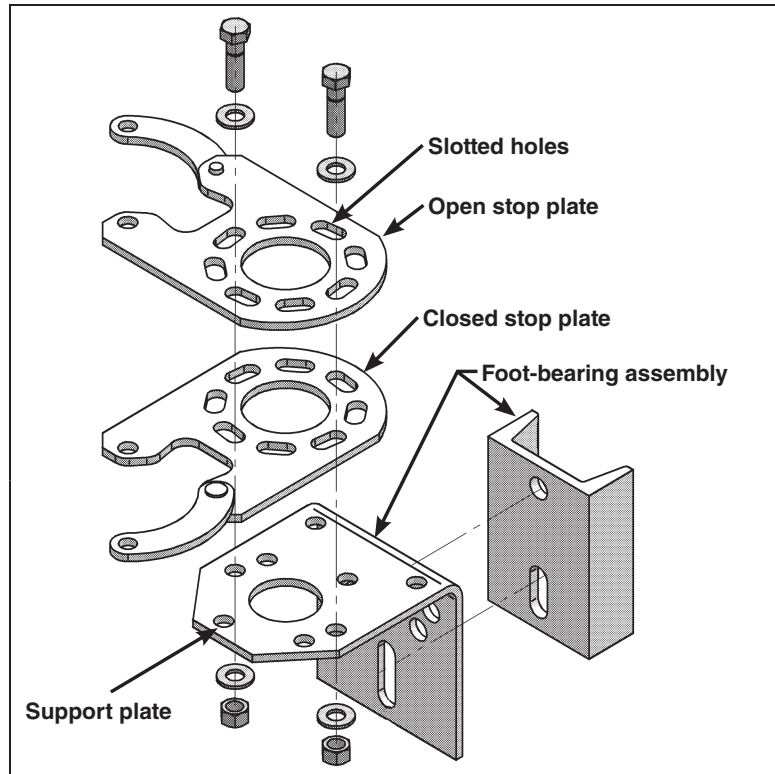

Figure 20. Exploded view of stop plates and the foot-bearing assembly.
The stop plate holes are slotted to allow room for adjustment. Loosen the bolts that secure the adjustable stop plates to the foot-bearing support plate. See Figure 20. Place the switch in the fully **Open** position, and adjust the **Open**-position stop-plate so when the handle is lowered it fits into the **Open**-position slot. Mark the location of the **Open**-position stop plate on the support plate.
- (a) Loosen the hardware securing the closed stop plate. See Figure 20 on page 18.